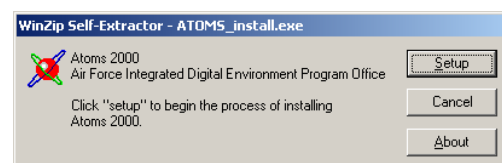

Figure 3-5. WinZip Self-Extractor
- 4) The WinZip Self-Extractor window appears (Figure 3-5). Click **Setup** to begin. Many files are extracted from the *ATOMS_install.exe* file, and placed into a temporary directory.